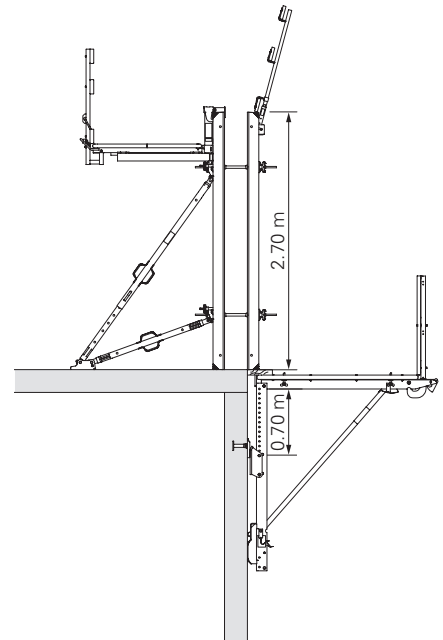

Fig. B2.02
- up to 2.70 m, max. height adjustment $\Delta h = 70$ cm. (Fig. B2.02)